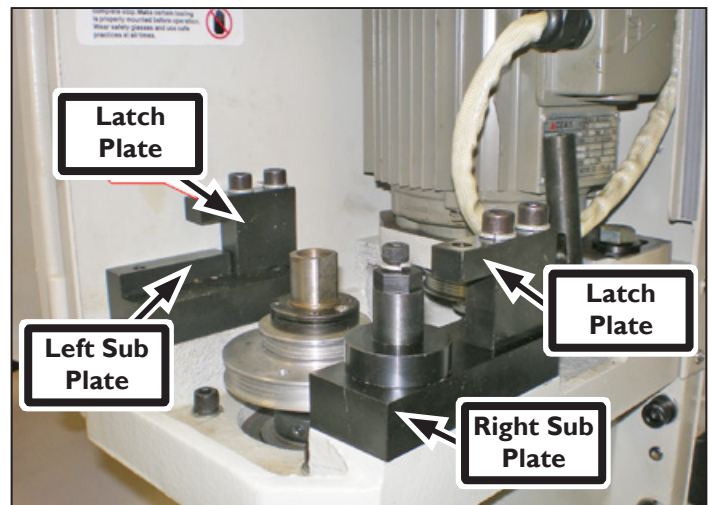

Figure 7
2. Using four Mount Screws, mount the Left Sub Plate and the Right Sub Plate) as shown in **Figure 7**.
3. Using four Mount Screws and four Lock Washers, mount two Latch Plates as shown in **Figure 7**.